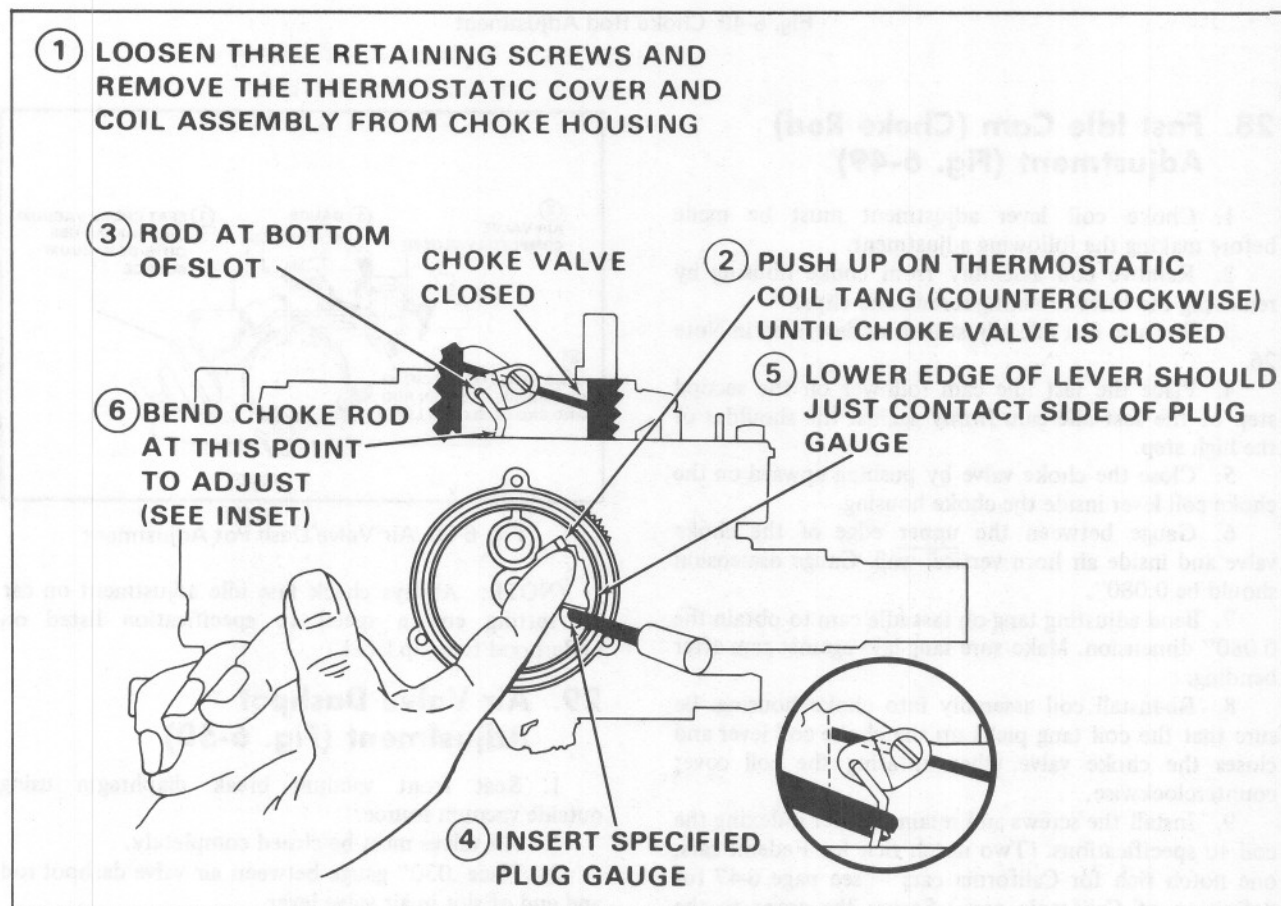

Fig. 6-48 Choke Coil Adjustment
## 27. Choke Coil Lever Adjustment (Fig. 6-48)
3. Insert .120" plug gauge in hole in choke housing, Fig. 6-48.
5. Bend choke rod at point shown to adjust (see inset), Fig. 6-48.